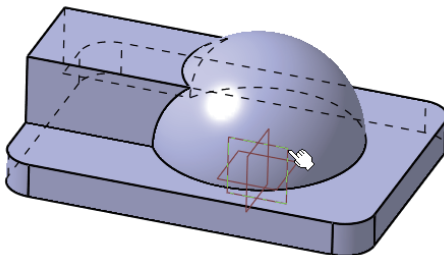

Fig 6-40 Sketch Plane
1. Press the **Sketch** button and select the xz plane as the sketch plane as shown in Fig 6-40. You can select the zx plane in the Spec Tree.